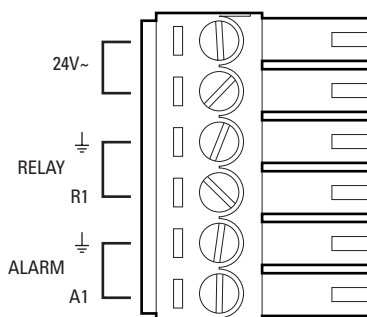

Figure 4. Alarm and Relay Wiring
5. Connect the necessary wiring for alarms and relays (refer to Figure 4). Only use the 24 VAC wires if PoE is not available.